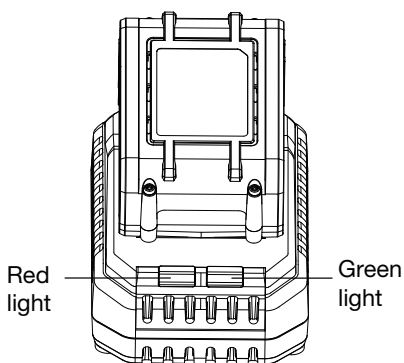

Figure 4
4. CHARGING THE BATTERY PACK (SEE FIG. 4)